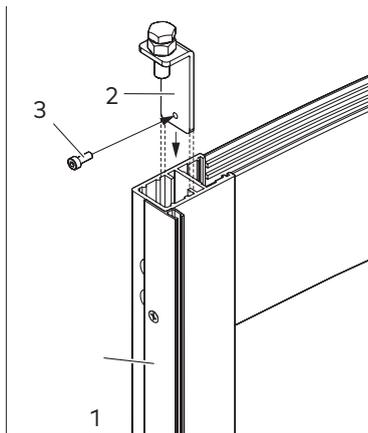

Fig. 44 Mount the detector bracket on the night finisher
7. Remove the brush holder profile (Fig. 44/1).
8. Screw the enclosed screw into the angle slightly (Fig. 44/3).
9. Insert the detector angle (Fig. 44/2) into the end profile of the night shield wing. The short end of the angle points away from the wing.
10. Fix the detector angle with the screw (Fig. 44/2) in
11. Reassemble the brush holder profile (Fig. 44/1).